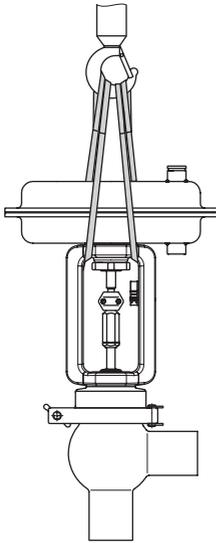
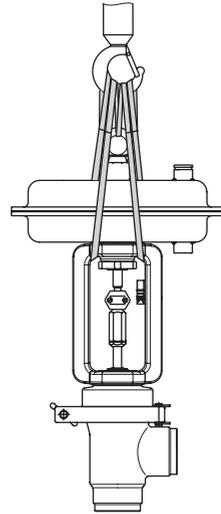
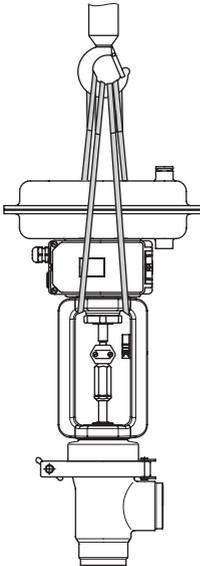

Fig. 4-1: Type 3347 with Type 3271 without lifting eyelet
Fig. 4-2: Type 3347 with Type 3271 with lifting eyelet
Fig. 4-3: Type 3347 with Type 3277 without lifting eyelet
1. With Type 3271/3277 or Type 3372: carefully guide two slings around the flange and attach them to the rigging equipment of the crane or forklift (see Fig. 4-1, Fig. 4-2 and Fig. 4-3). Make sure that the actuator stem and valve accessories are not damaged.
For actuator versions with lifting eyelet, attach an additional sling to the lifting eyelet of the actuator and to the rigging equipment of the crane or forklift (see Fig. 4-2).